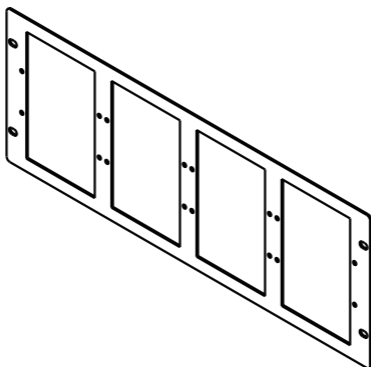

Fig. 21
6. MTG-100C-CR Charger Rack, Fig. 21: